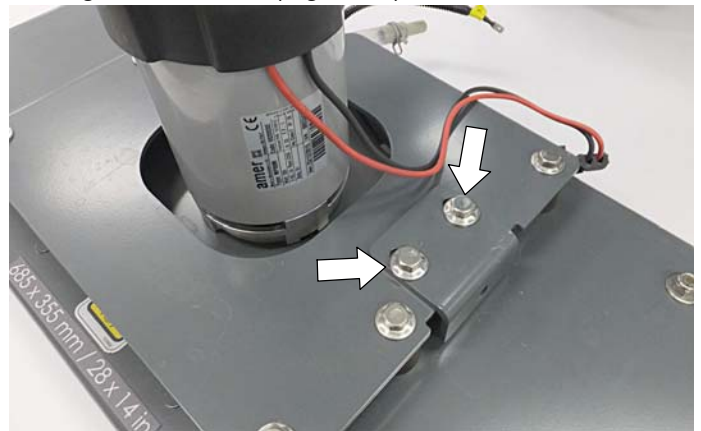

Fig. 10
11. Loosen the two screws on the orbital scrub head alignment bracket (Figure 10). Do not remove bracket.